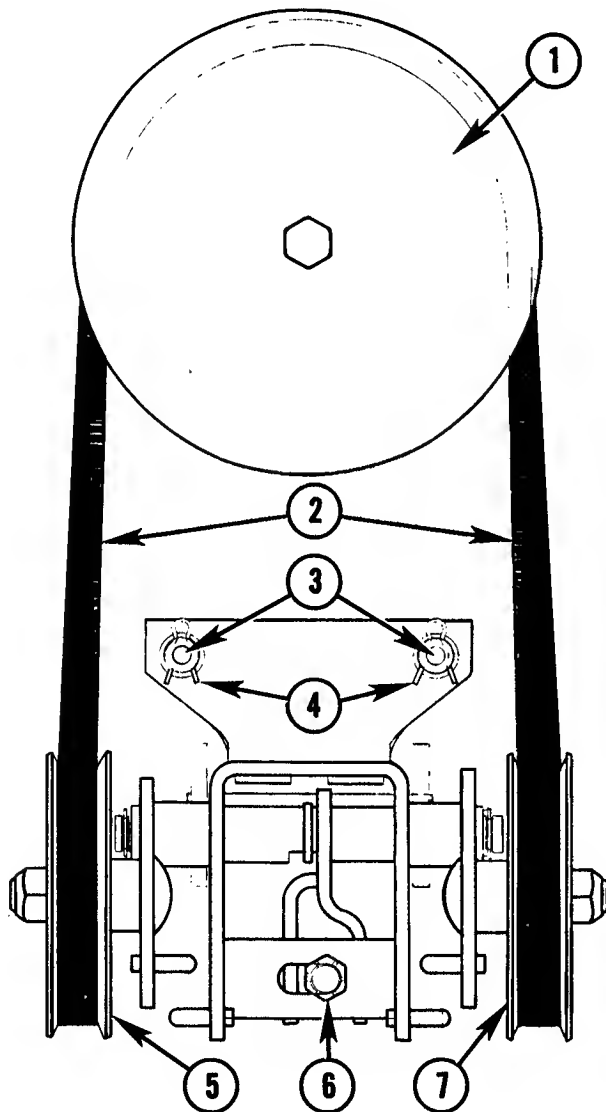
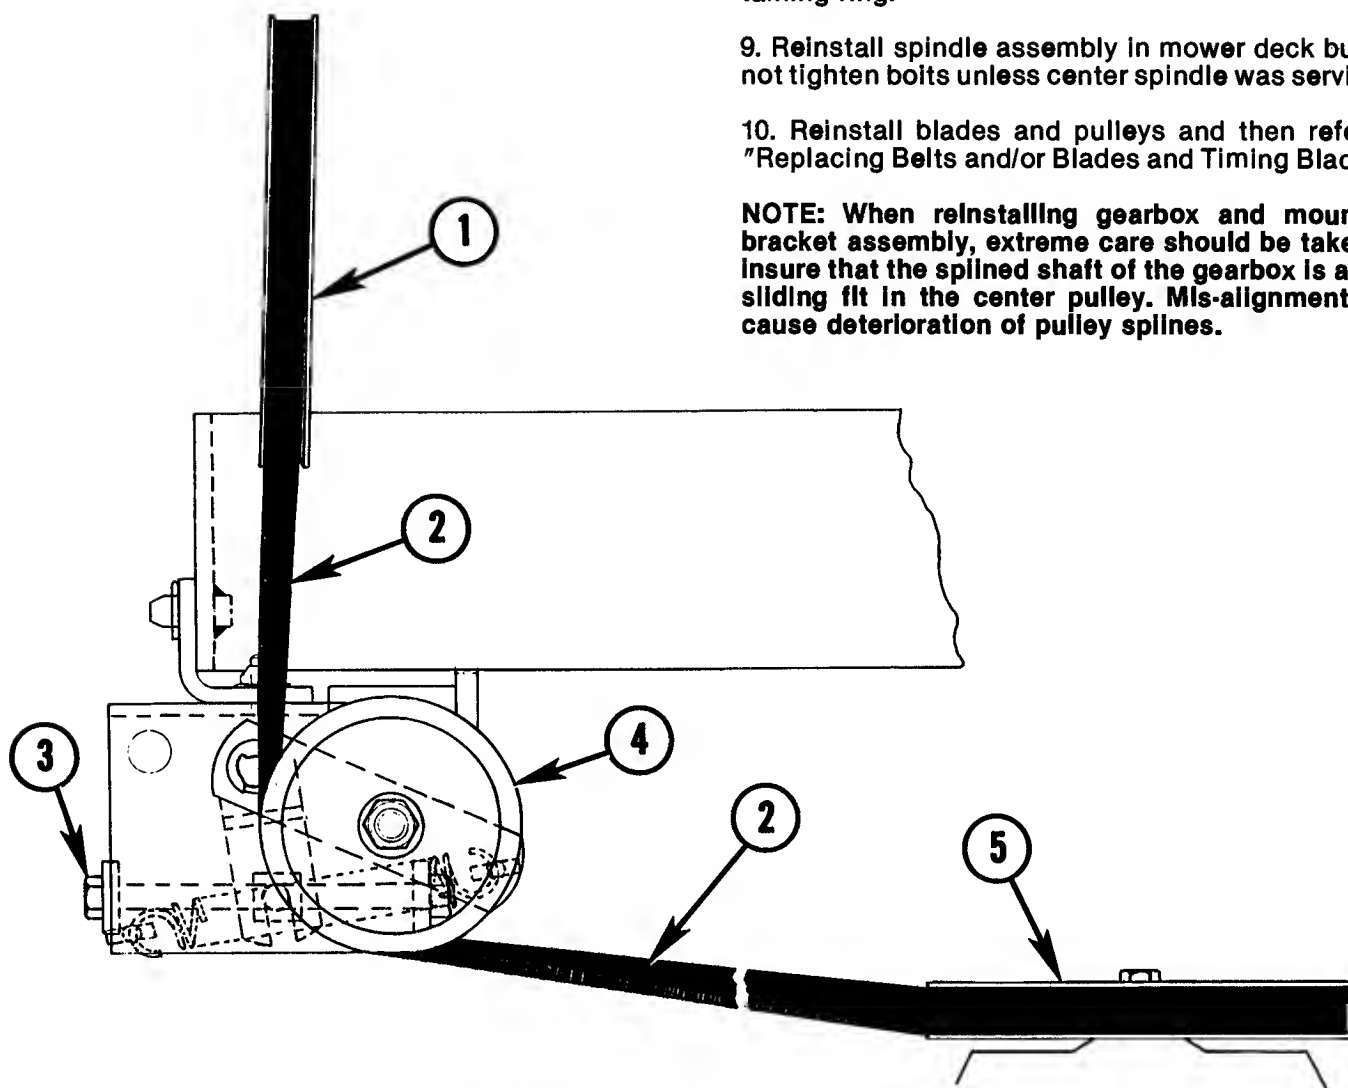

FIG. 10.5--DRIVE BELT ARRANGEMENT (FRONT)
FIG. 10.6--MOWER DRIVE BELT ARRANGEMENT
3. Push up on right-hand mule drive pulley, No. 5, Fig. 10.5, and remove belt, No. 2, from pulley.
2. With mower in lowered position, turn adjusting bolt, No. 6, Fig. 10.5, clockwise to adjust belt tension. When belt, No. 2, is properly tensioned, pulleys, Nos. 5 and 7, should be approximately same height from ground.
6. Remove mule drive unit by removing 2 spring clips, see Fig. 10.5.
7. Place mower drive belt over Implement drive clutch pulley, see Fig. 10.5.
9. Rotate bolt, No. 6, Fig. 10.5, counterclockwise and install belt, No. 2, Fig. 10.5, under left pulley, No. 7, Fig. 10.5, then place belt around mower clutch pulley, No. 5, Fig. 10.6.
10. Raise spring loaded pulley, No. 5, Fig. 10.5, and install belt under it as shown.
11. Rotate bolt, No. 6, Fig. 10.5, clockwise until both mule drive pulleys are the same height.
2. Remove gearbox from mower, Fig. 10.6.